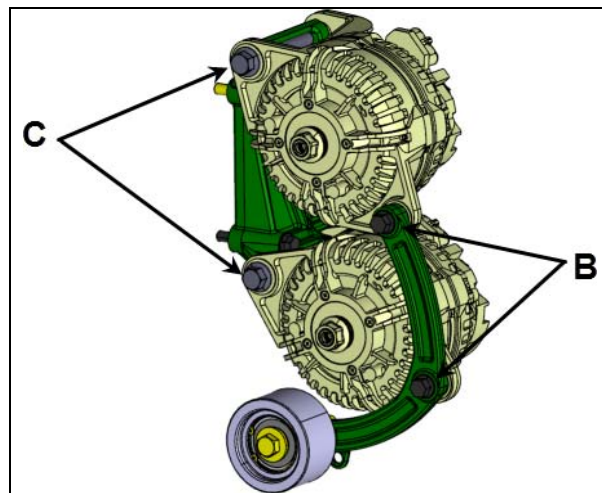

FIGURE 20
10. In order to assure proper installation, it is important to tighten the alternator mounting bolts in proper sequence. Use Loctite 243 blue on threads (FIGURE 20). Once properly torqued, apply yellow torque seal.